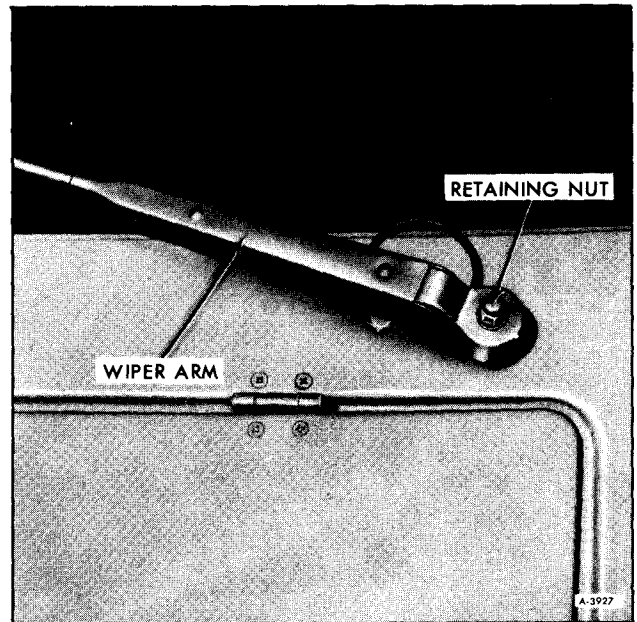

Figure 24—Wiper Arm Removal
1. To release tension, lift wiper arm off windshield and insert pin into aligned holes at wiper arm spline shaft. Remove wiper arms from pivot shafts by removing wiper arm retaining nuts (See figure 24).
1. Disconnect hoses (2) at motor and tape end to prevent loss of fluid and entrance of dirt or water into system.
2. Loosen cable retaining screw at bottom of motor and remove pin from arm on motor assembly. See Figure 24.